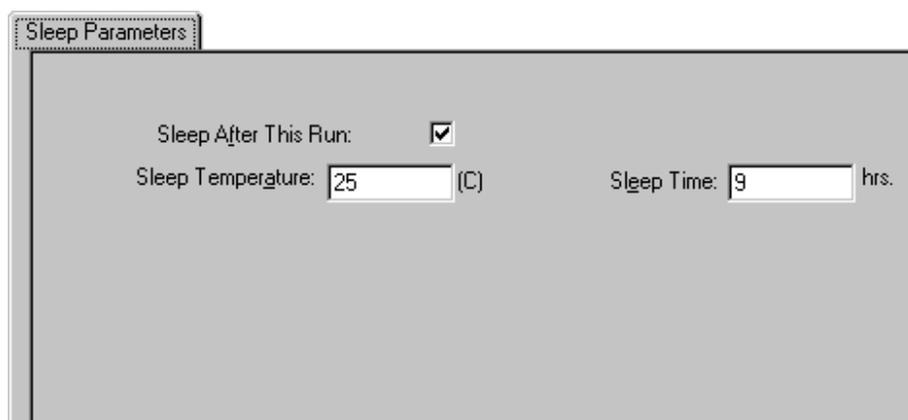

Figure 7-11. Sleep Parameters tab with Sleep After This Run selected.
1. In the **Sleep Parameters** tab of the Instrument Control window (figure 7-11), type the number of hours in the **Sleep Time** box.